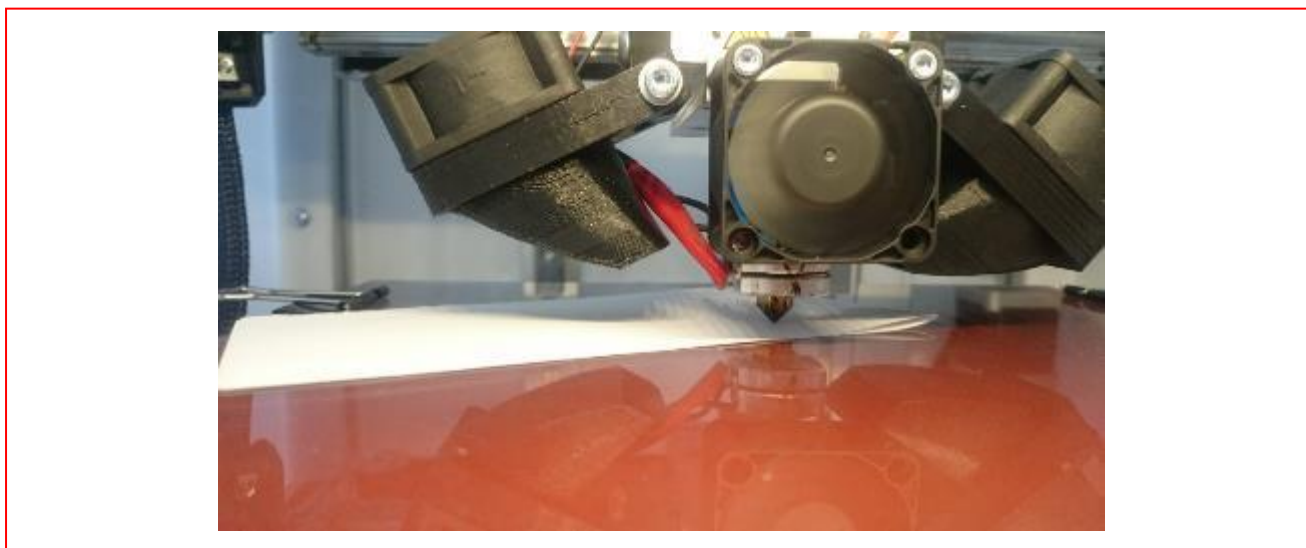

Figure 2-6 Use a sheet of paper to check the distance between the extruder nozzle and the tempered glass
5. Try to pass a normal sheet of paper, folded in two, between the extruder nozzle and the tempered glass table (Figure 2-6).